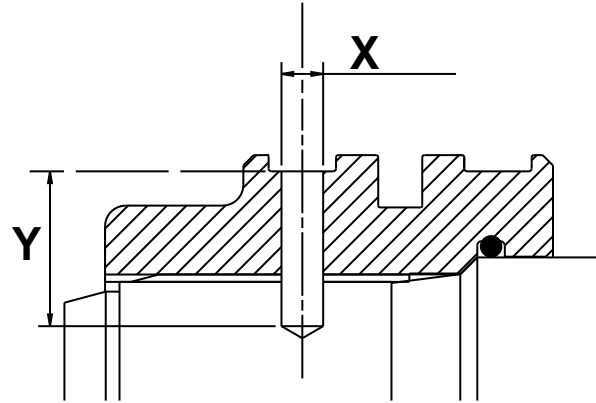

Fig 11.
- a Drill through piston head into piston rod. Use an undersized diameter drill first as a guide and then drill with the correct size diameter drill to suit, see ⇒ Fig 11. \(□ E-56\) and ⇒ Table 2. Drill Diameters and Depths \(□ E-56\).